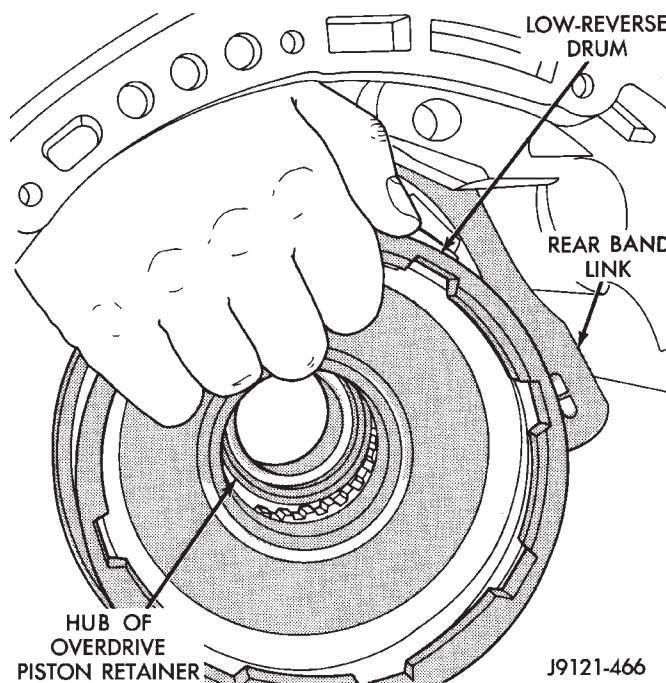

Fig. 135 Installing Low-Reverse Drum—46RH
(9) Install low-reverse drum (Fig. 135). Slide drum through rear band, onto rear support hub and into engagement with overrunning clutch race.